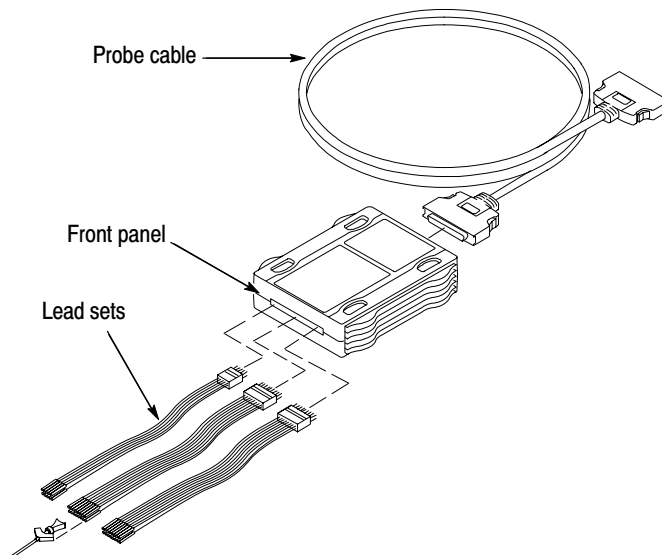

Figure 1: Standard probe, lead sets, and probe cable
Figure 1 shows a typical pattern generator probe with the lead sets and probe cable. The probe cable is included with the TLA7PG2 pattern generator module. Refer to *Probe Connectors and Signal Names*, beginning on page 7, for probe connector information.
3. Connect the standard probe as shown in Figure 1. The probe cable is reversible. You can connect the probe cable in either direction.